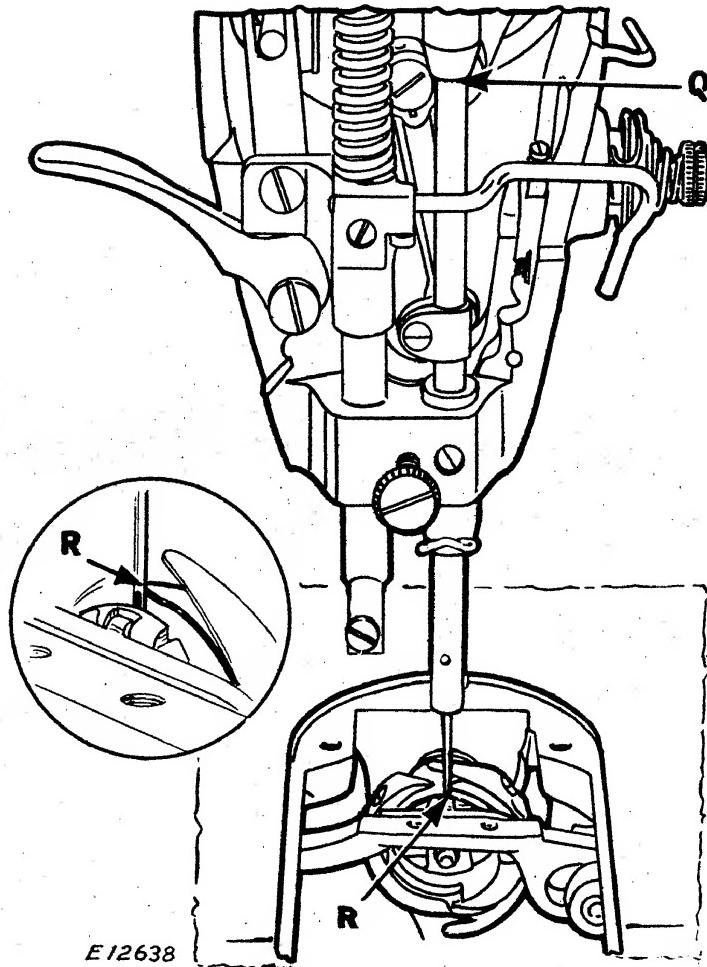
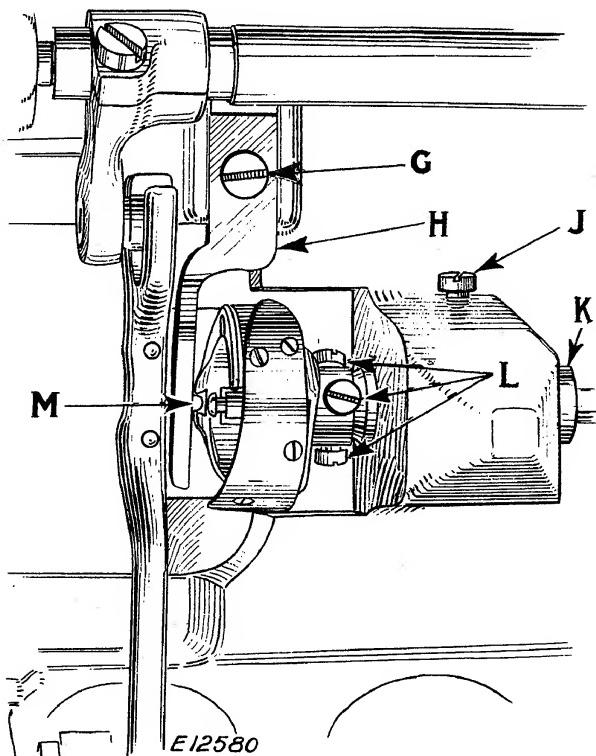
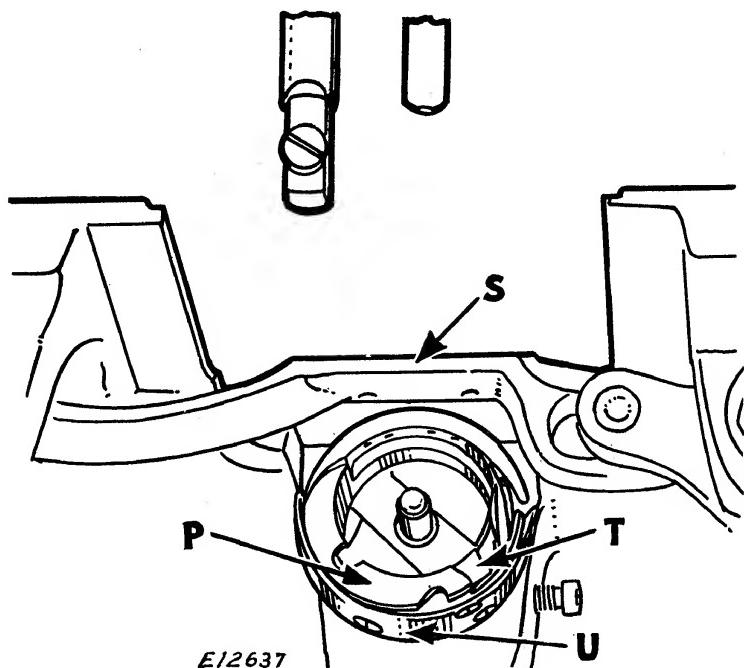

Fig.21. Needle and Sewing Hook Correctly Timed
Fig.22. View of Underside of Machine
Fig.23. Showing Correct Position of Thread Guard (U) and Bobbin Case Holder (P) for Removal of Sewing Hook
To determine that the hook is correctly timed, place a new needle in the machine, then turn the balance wheel over toward you until the LOWER TIMING MARK on the needle bar is centered with the lower end of the needle bar bushing as shown at (Q, Fig. 21), when the needle bar is on its upward stroke. With the needle bar in this position, the point of the hook should be at the center of the needle as shown at (R, Fig. 21). The inset in circle at the left of Fig.21 plainly shows this position of the hook point relative to the needle.
In case the hook is not correctly timed, loosen the three screws (L, Fig.22) in the hub of the hook. These three screws can be reached from the top of the machine bed through the open-
ing left by the removal of the throat plate, although, for purposes of illustration, the screws are shown only in the view of the underside of the machine in Fig.22. Rotating the balance wheel of the machine will bring these screws, one at a time, directly under the throat plate opening where they can be easily reached with a screwdriver from the top of the machine bed.
After loosening the three screws (L, Fig.22) turn the hook on its shaft to bring the point of the hook at the center of the needle as shown at (R, Fig.21), then tighten the three screws (L, Fig.22).
The hook should be set as close as possible to the needle without touching. If the hook is too close to the needle or too far away from it, loosen the three screws (L, Fig.22) and the bushing screw (J, Fig.22) and drive the bushing (K, Fig.22) in or out, as may be required, until the hook just clears the needle, being very careful not to damage the bushing, then securely tighten the bushing screw (J) and the three screws (L).
Remove the needle, slide plate and bobbin case. Take out the screw (G, Fig.22) and remove the bobbin case holder position
bracket (H, Fig.22). Loosen the three set screws (L, Fig.22) in the hub of the hook, then turn the balance wheel over toward you until the feed bar (S, Fig. 23) is raised to its highest point. Turn the sewing hook until the thread guard (U, Fig.23) is at the bottom, as shown in Fig.23, and turn the bobbin case holder (P, Fig.23) until it is in the position shown in Fig.23. The sewing hook can then be removed from the hook shaft.
When placing a new sewing hook on the shaft, have the thread guard (U) of the hook at the bottom and the bobbin case holder (P) turned to the position shown in Fig.23, so that the hook will clear the feed bar (S).
When the hook is in position on the shaft, turn the bobbin case holder (P, Fig.23) until the notch (T, Fig.23) is at the top, then replace the bobbin case holder position bracket (H, Fig.22) being careful to see that the position stud (M, Fig.22) enters the notch at the top of the bobbin case holder, as shown in Fig.22,
then securely fasten the position bracket by means of the screw (G, Fig.22). Replace the needle and time the sewing hook as instructed on pages 17 and 18. When tightening the three screws (L, Fig.22) in the hub of the hook, draw the hook shaft toward the needle bar end of the machine and press the hook toward the balance wheel to take up the end play in the shaft. Then replace the bobbin case and slide plate.